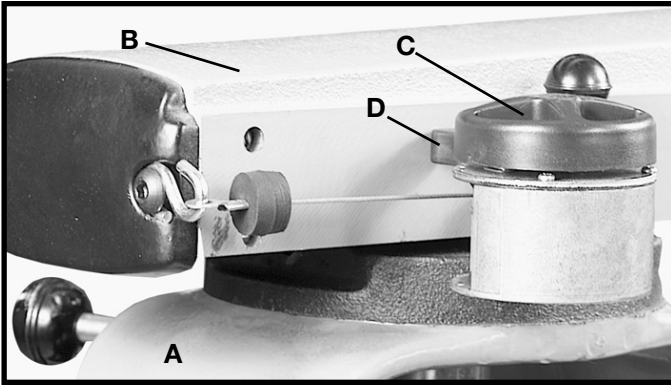

Fig. 49
The cuttinghead return assembly is properly tensioned when there is just enough cable tension to return the cuttinghead (A) Fig. 49, without excessive force, to the rear of the track arm (B) after completion of the cut. To adjust:
1. To **INCREASE** cable tension, turn adjustment dial (C), Fig. 49, clockwise.